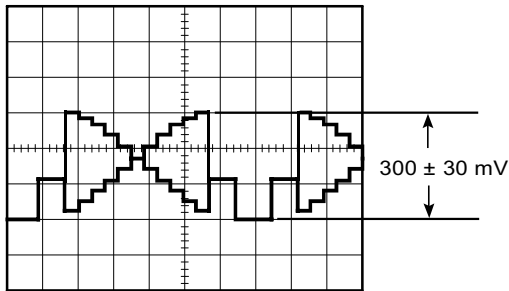

Fig. 4-9
- Adjust data with the **ARROW** keys so that the AGC OUT signal level becomes 300 mV as shown in Fig. 4-9.